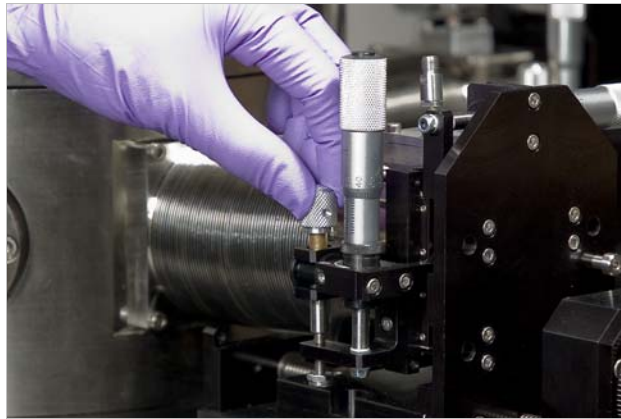

FIGURE 4-18 Turn the differential knob to adjust the angle
4. While observing the probe tip through the microscope, turn the differential knob to adjust the angle, as shown in FIGURE 4-18, visually noting the three points' alignment to the x-y plane.